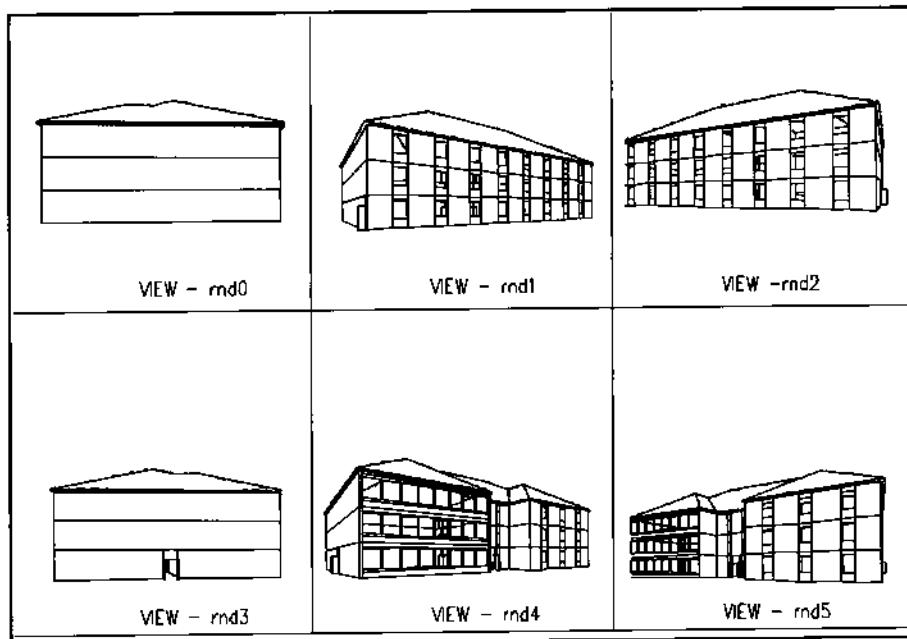

Figure 14.
10. The 6 views are shown in Figure 14.